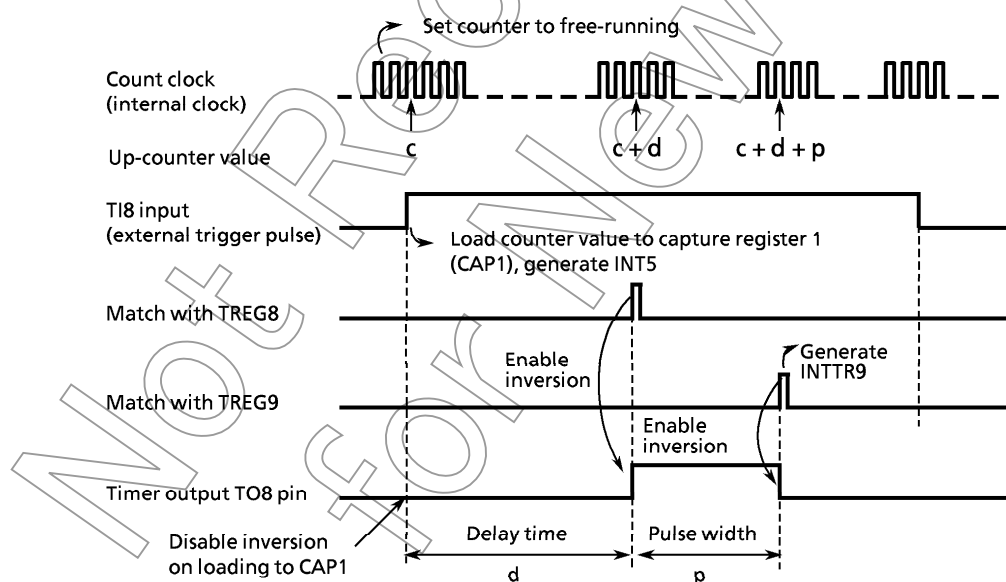

Figure 3.8 (6) One-Shot Pulse Output from External Trigger Pulse (With Delay)
The (c), (d), and (p) notation above corresponds to c , d , and p in Figure 3.8 (6), One-Shot Pulse Output from External Trigger Pulse (With Delay).